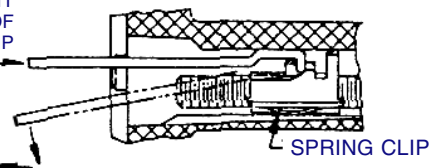

FIGURE 2, Insert Wedge
3. Snap altered Wedge into Feed Block as shown (see Figure 2).